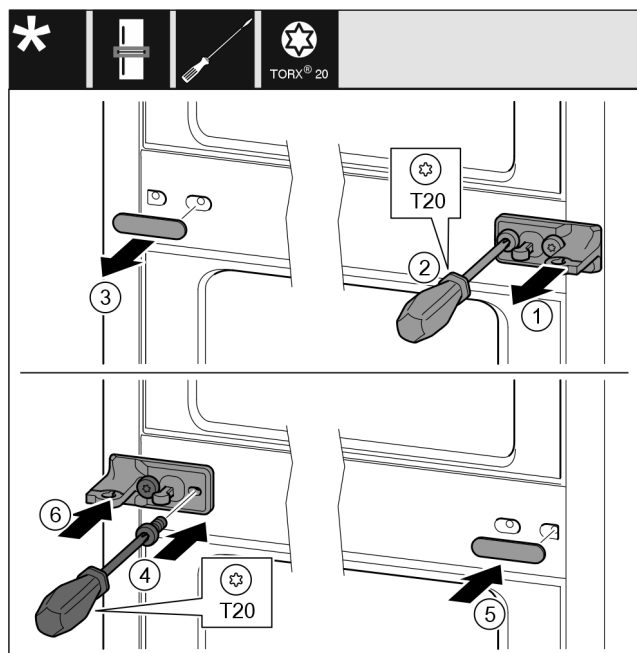

Fig. 29
- Remove the washer Fig. 29 (1).
- Unscrew screws Fig. 29 (2) with screwdriver.
- Remove the cover Fig. 29 (3) carefully.
- Turn the bearing block with film Fig. 29 (4) by 180° and screw it tight on the other side.
- Turn the cover Fig. 29 (5) by 180° and attach to the other side.
- Slide on the washer Fig. 29 (6) from the front.